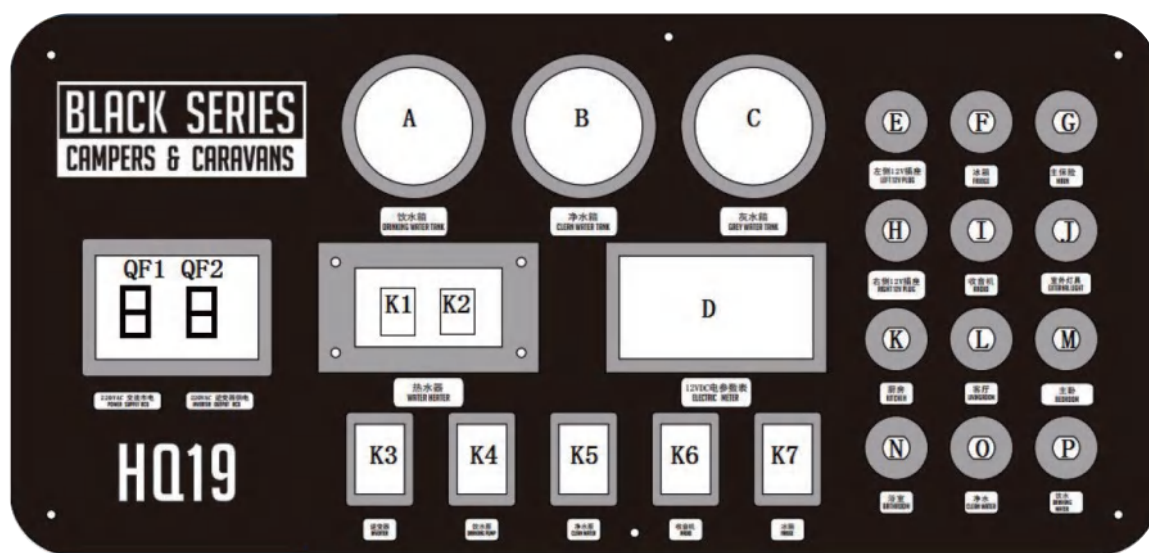

FIG. 3-1 MAIN CONTROL PANEL
- (1) First close the switch K4 on the control panel in Fig. 3-1;
- (2) Long press the control knob for more than 3s to turn on the radio;
- (1) To use the fridge, first close the switch K7 on the control panel in Fig. 3-1, press the “Power” button on the control panel of fridge for 1s until the indicators (Auto, AC, DC, Gas Source, Temperature Setting) on fridge’s control panel flash and release the “Power” button;
- (2) Press the “Confirm” button on the fridge’s control panel for 2s, press the increase “>” or decrease “<” button to select the power source when any of Auto, AC, DC and Gas Source indicators is constantly on, and press the “Confirm” button for 2s to confirm the power source;
- (3) After the power source is selected, press the increase “>” or decrease “<” button to set the cooling level; there are five cooling levels and each box represents one level; one box represents the lowest cooling level and five boxes represent the highest cooling level; the higher the ambient temperature, the higher the cooling level required, and vice versa; when the temperature is between 15°C–25°C, the cooling level should be set to level 3; after the cooling level of fridge is set, press the “Confirm” button for 2s;
- (4) There is a three-position switch on the left side of “ON/OFF” button of fridge’s control panel, which is to dissipate heat of fridge condenser; when the switch is on “–” position, one fan is working, when on “=” position, two fans are working, and when on “0” position, no fan is working; the effective heat dissipation of condenser will accelerate the cooling of fridge, so the fans can be turned on based on the actual conditions;
- (5) When the fridge is no longer used, press “ON/OFF” button until all indicators on the panel are off, release the “Power” button and turn off the switch K7 on the control panel in Fig. 3-1.
- (6) Municipal power supply is preferred when it is accessible. When municipal power supply is not accessible, the batteries of trailer can be used as the backup power supply of fridge;
- (1) First close the switch K7 on the control panel in Fig. 3-1;
- (2) Long press the control knob for more than 3s;
- (3) Fridge will start operating with the last settings;
- (4) Turn/press the control knob on the preferred settings and user mode options;
- (5) The indicator turns red when it is selected;
- (6) Press the button again to cancel it.